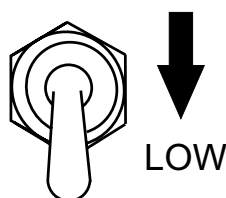

Figure 25. Engine Speed Switch (LOW)
6. Let the engine idle for five minutes with the **Engine Speed Switch** (Figure 25) placed in the **LOW** position.